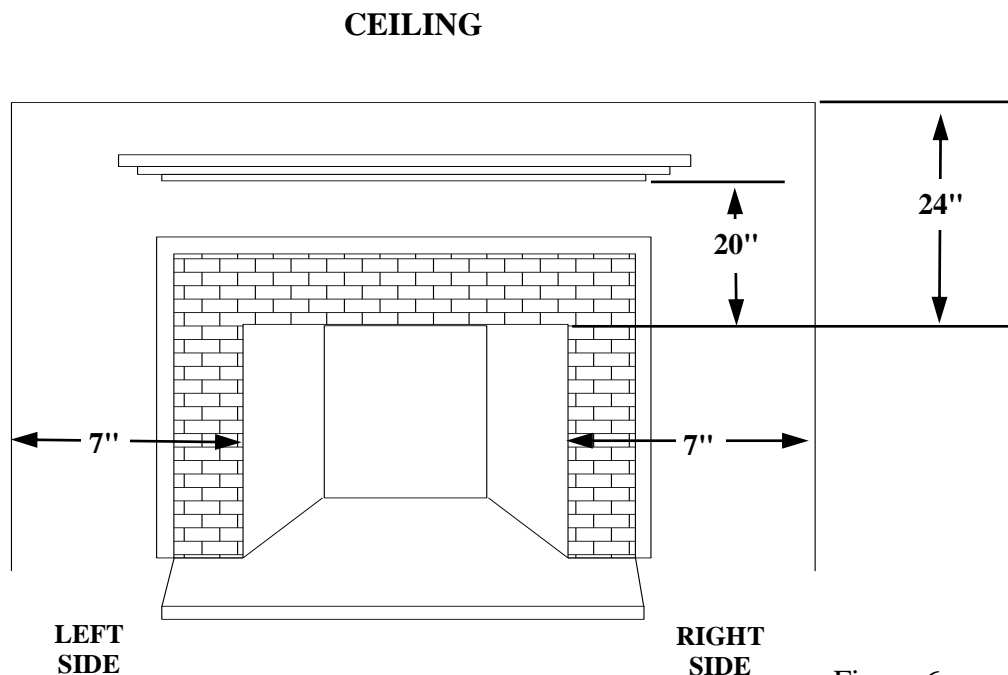

Figure 6
- (1) Model FP-34 may be installed in a masonry fireplace. The **minimum fireplace dimension** must be 24" high, 29-1/2" wide, and 12" deep.
- (2) For minimum dimensions for the sidewall and mantel, see Figure 6.
- (3) Center heater in fireplace opening.